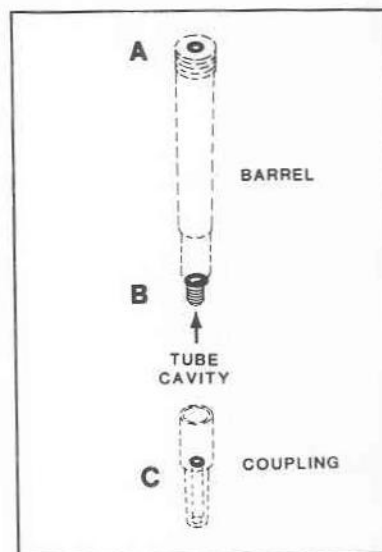

Figure 5.17.
- (b) Referring to Figure 5.17, remove shaft O-ring "A", barrel O-ring "B", and coupling O-ring "C".
- (h) Remove the Coupling from the Barrel and, using a tissue, clean out any grease from the Tube Cavity (see Figure 5.17). IMPORTANT: Excess grease forced inside the bore of a QBC Venous tube can cause the float to stick and fail to descend during centrifugation.